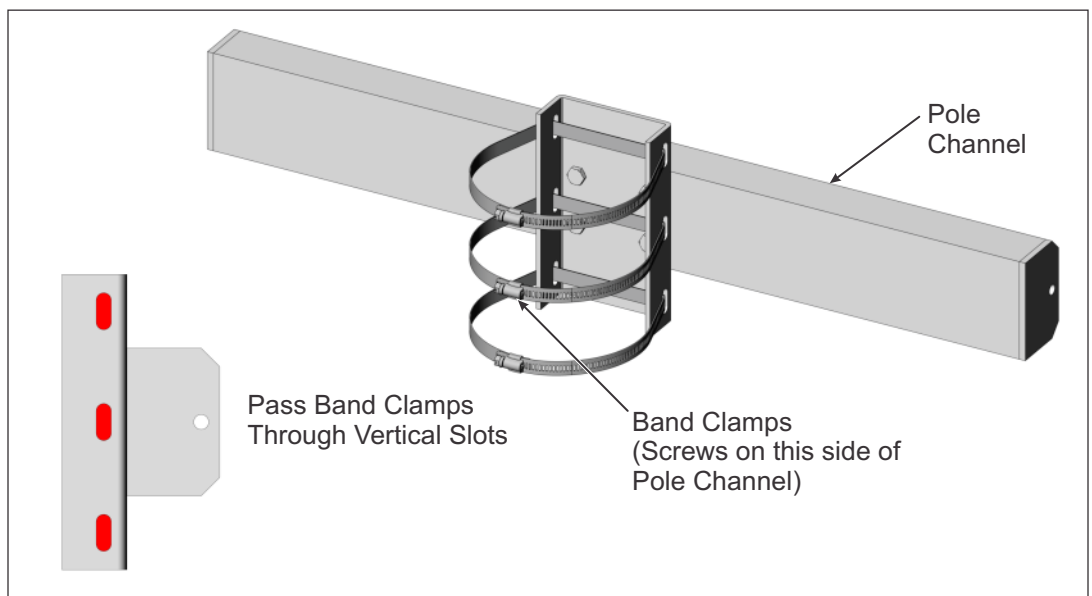

Figure 1-4: Installing Band Clamps on Pole Channel
- A. Unscrew the three Band Clamps and pass the loose ends through the three vertical slots of the Pole Channel, positioning the screw housing on the backside of the Pole Channel. Secure the loose ends by screwing them back into their screw housing. Complete this process on both Pole Channels. (See Figure 1-4)